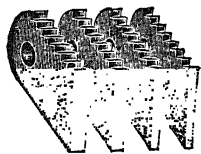

FIG. 215.—Screw slotting hack-saw
**243. Special Blades.**—Hack-saw blades of four different thicknesses (about 0.049, 0.065, 0.083 and 0.109 in., see Fig. 215) are made by several manufacturers for slotting screws and similar work. Such a blade is very handy indeed when a few screws for a special job are needed in a hurry since it saves the time of setting up a machine even if one is available.